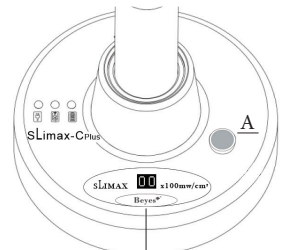

Figure 1 — display screen
3. Place curing unit with battery into the charger as shown in Figure 1.